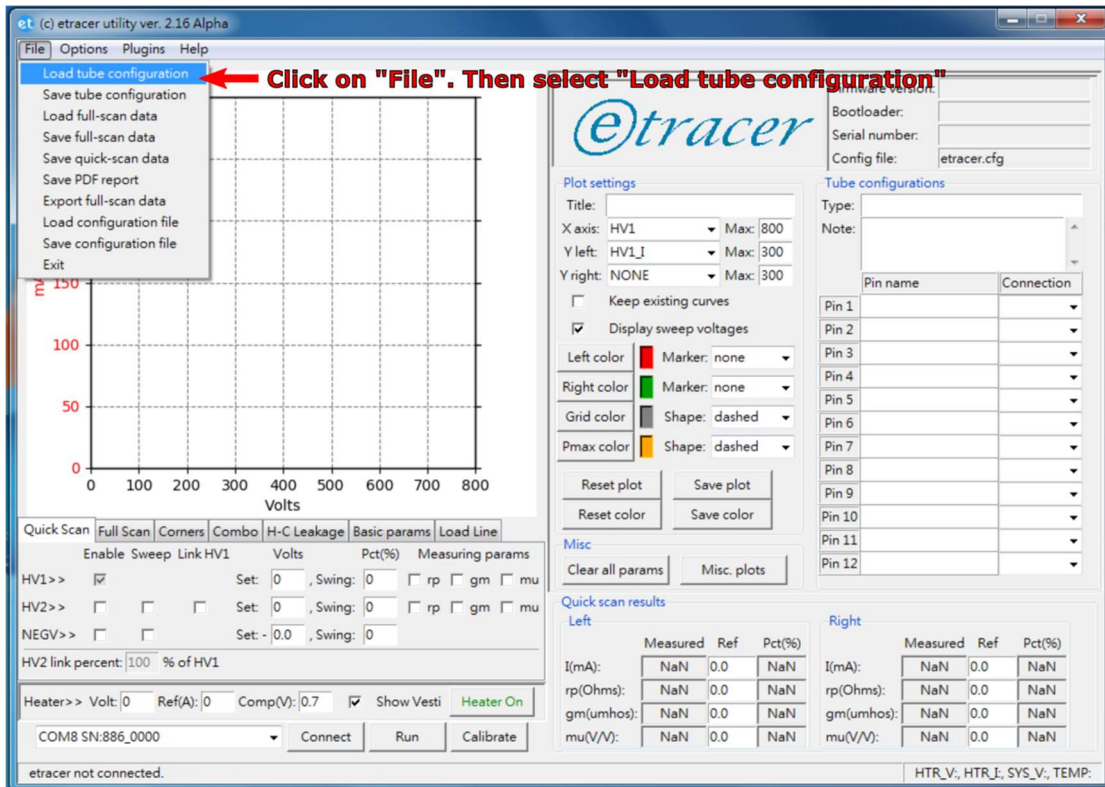
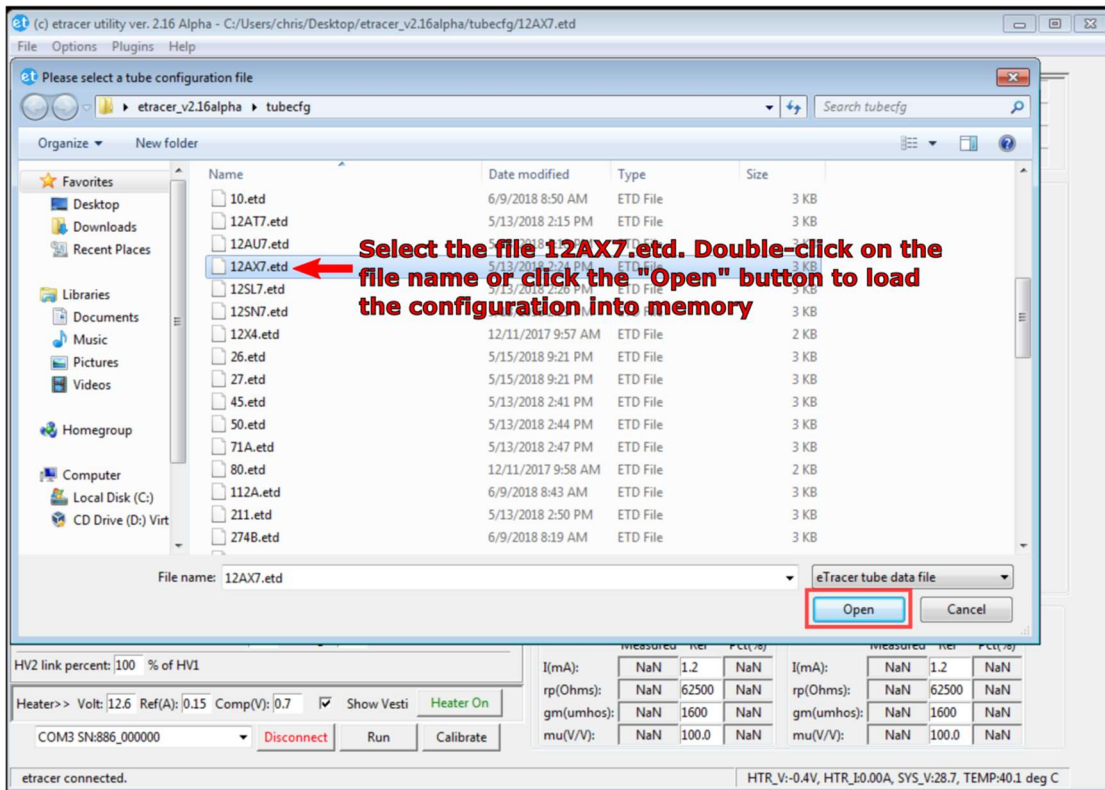

Figure 5-2.
Figure 5-3.
- [2] Load the tube configuration file into memory. Select the configuration for a 12AX7 as depicted by figure 5-2 and figure 5-3.